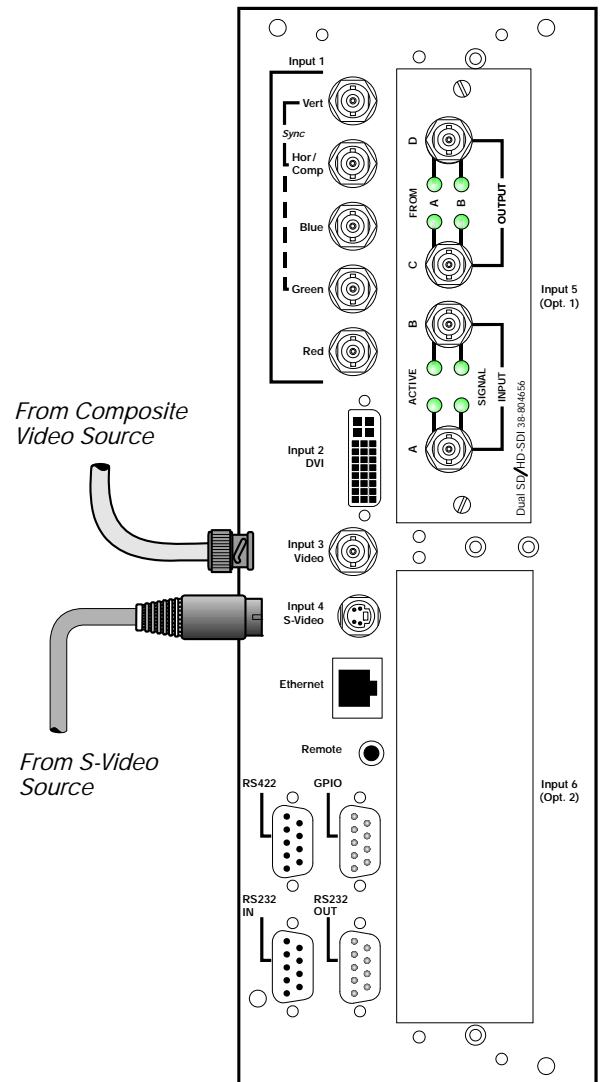

Figure 3-4 Connecting Composite Video
**INPUT 3** and **INPUT 4** provide simultaneous connection of both a composite video source (**INPUT 3**) and an S-Video source (**INPUT 4**). See Figure 3-4.